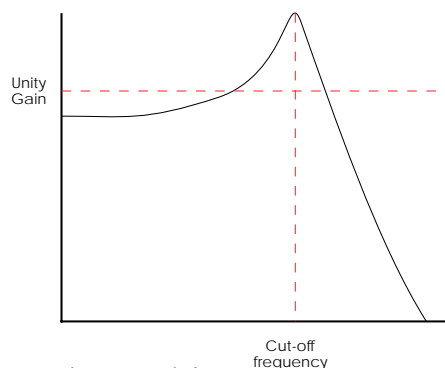
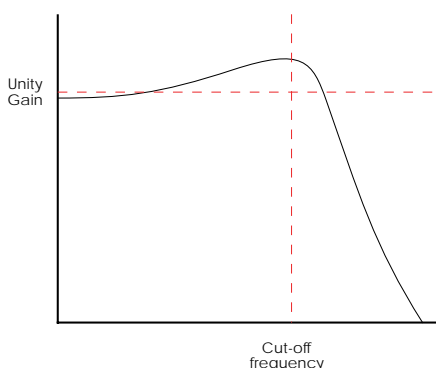

Figure 13: A typical resonant low-pass filter response.
Figure 14: Resonant low-pass filter with low Q.
Figure 13 (on page 140) shows an idealised response for a resonant low-pass filter. As you can see, the filter still attenuates the frequencies far above the cutoff frequency, but a band around the cutoff is boosted. Furthermore, the low frequencies are slightly attenuated. (For some reason, this is rarely shown in diagrams of this sort.) The width of the resonant peak is described by a parameter called its 'Q'. If Q is low, the peak is broad, but as Q increases, the peak in the filter response becomes more and more pronounced and creates dramatic tonal changes. See Figures 14 and 15 on page 140.
► later instalments of Synth Secrets. But, in the spirit of all things filter-y, let's briefly touch upon some of the possibilities suggested by Figures 14 to 16: